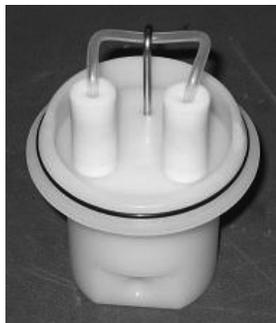

Figure 11
2. Check the new tubing assembly to make sure no black O-rings are caught in the caps. Remove if required. Press the diffusion tubing onto the connector barbs, as shown in Figure 11. The holes at the tubing ends press onto the barbs.
1. Secure the diffusion tubing assembly to the base of the reagent bottle adapter assembly. The diffusion tubing adapter connectors must be perpendicular and straight when tightened into adapter assembly. Refer to Figure 11.